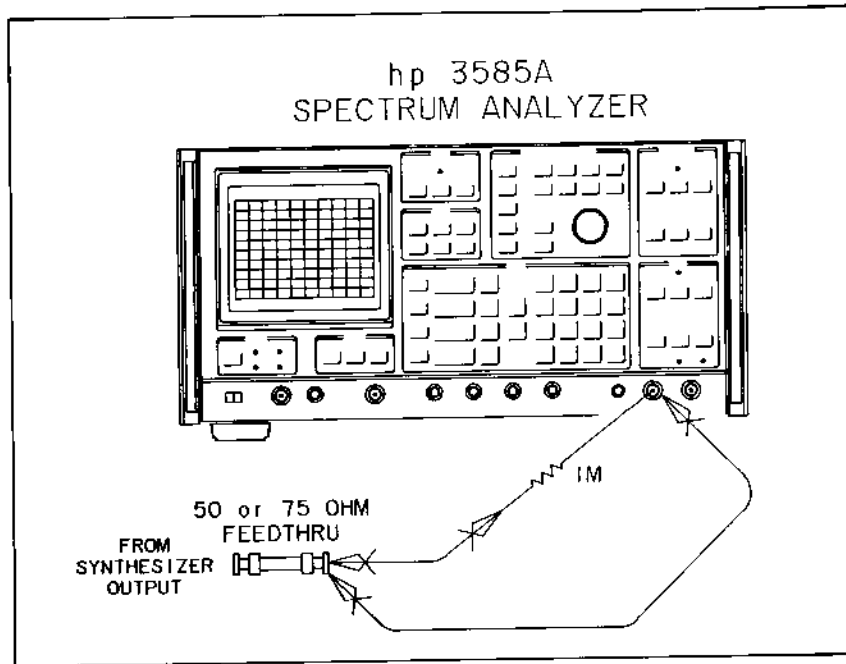

Figure 4-3. 1 M ohm Input Impedance Test
- e. Using short clip leads, insert the 1 MΩ resistor between the output of the termination and the 3585A 1 MΩ input as shown in Figure 4-3. 1M Ohm Input Impedance Test.